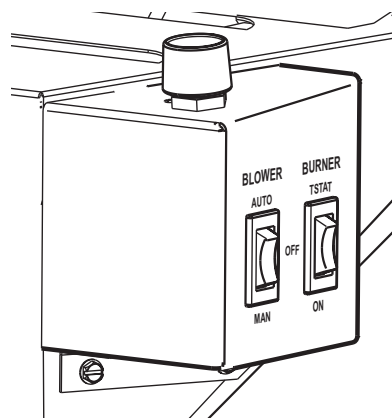

Figure 30. Burner Switch and optional Blower Controls
1. Once the pilot is lit, burner operation is controlled by the rocker switch located at the left corner of the rear shroud. See fig. 30.